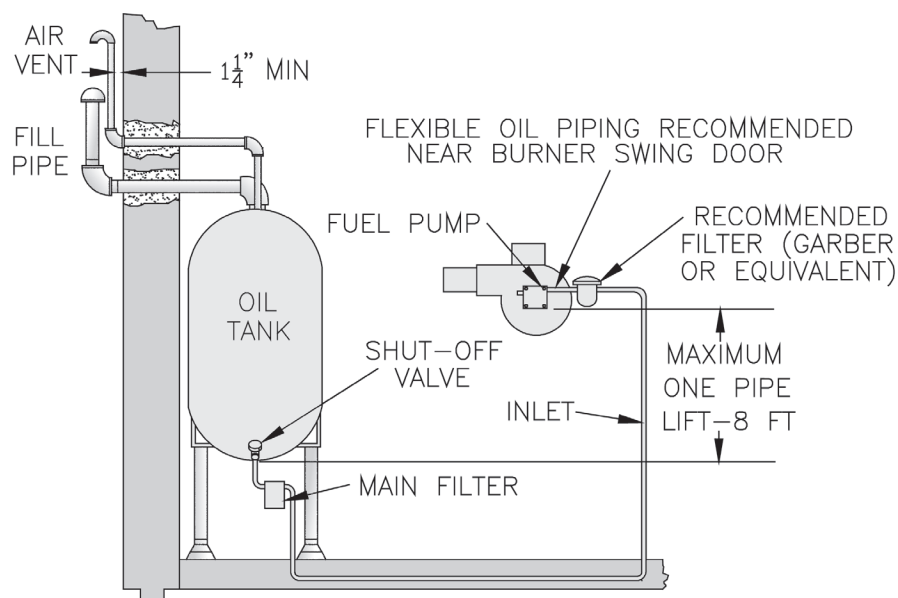

Figure 30: Single Pipe Oil Line
2. The single-stage fuel unit may be installed single-pipe with gravity feed or lift. Maximum allowable lift is 8 feet. See Figure 30.